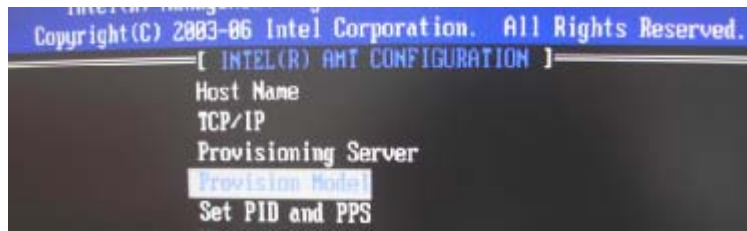

Figure 8-6: Provision Model
Step 6: Select Provision Model and press Enter. (Figure 8-6)